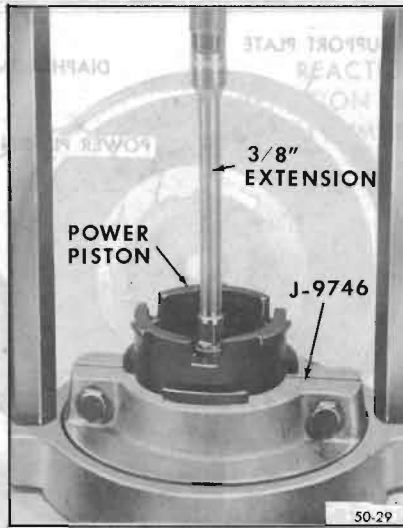

Figure 50-66—Removing Air Valve Assembly
11. Set up Power Ram and Hydraulic Pump with J-9746 Press Plate. Insert power piston, tube down, in press plate and remove air valve assembly using a 3/8" drive extension as a remover. See Figure 50-66.